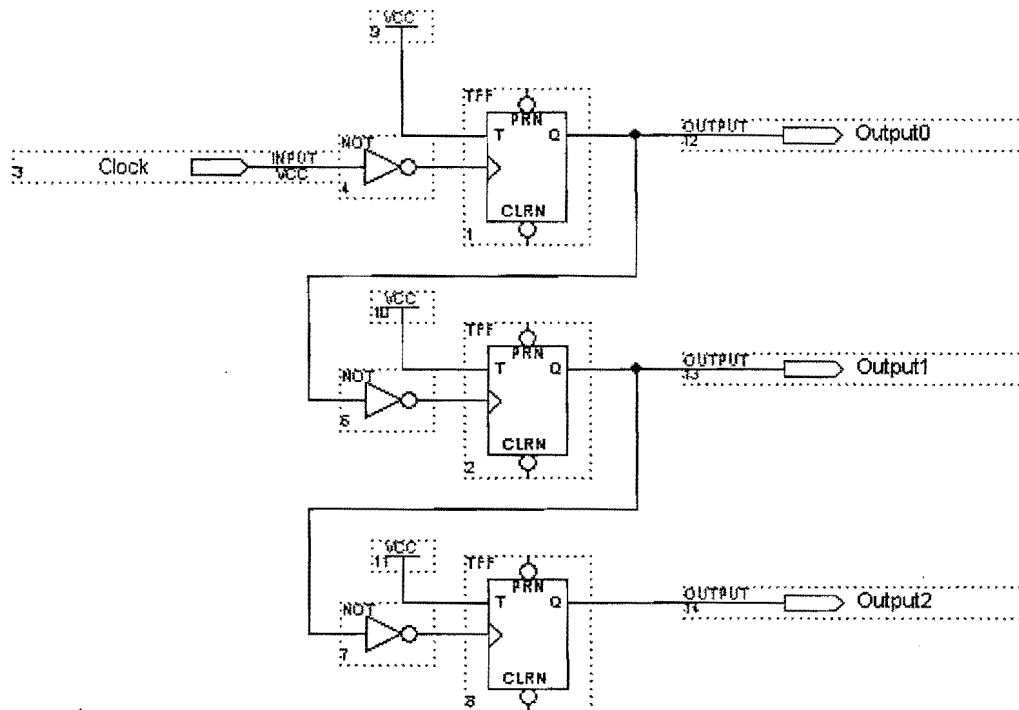

Figure 2.1
- b. *Figure 2.1* is the schematic diagram of a Prescaler. Draw the waveform of input (Clock) and the output (Output [3..0])
- c. Based on the Prescaler schematic in *Figure 2.1*, assume that the "Clock" for the Prescaler is 5 kHz and "Output 2" is connected to the "Clock" of a 16-bit counter. What is the inertial value of the counter if the "Top" of the counter asserts every 1-minute?